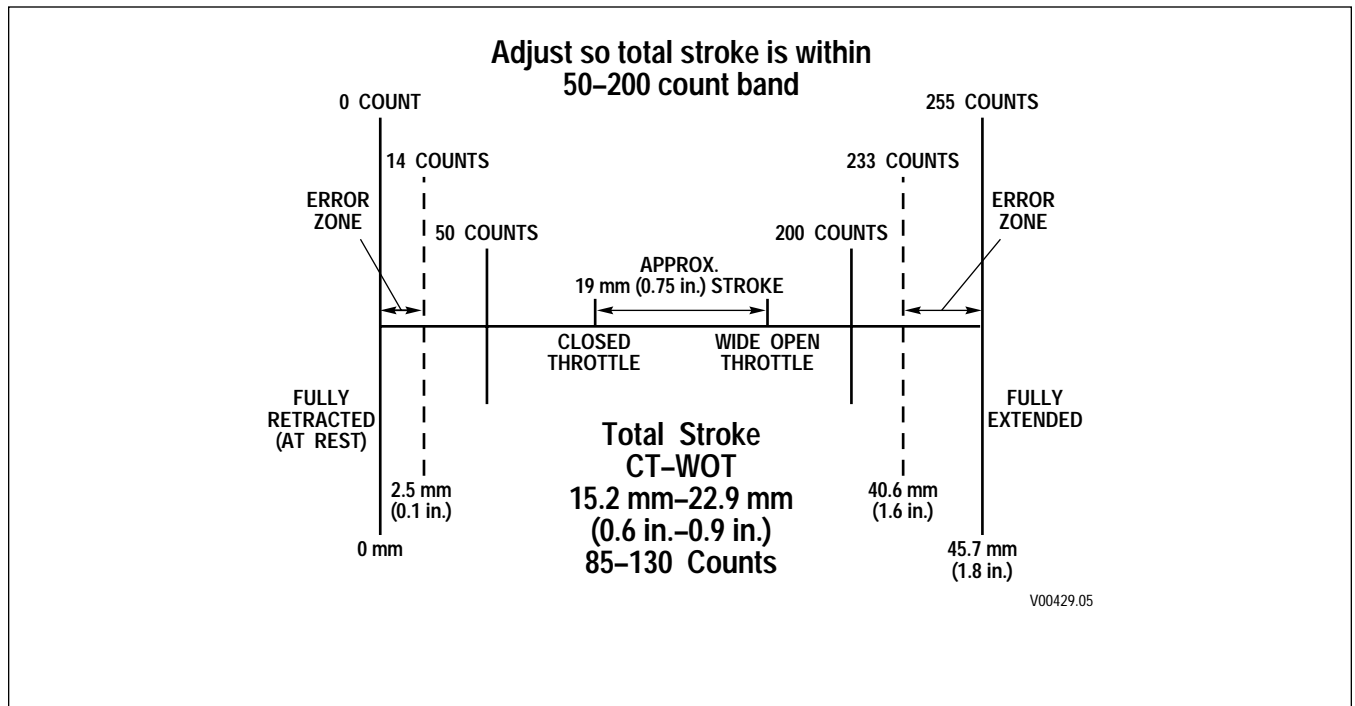

Figure F-2. Throttle Position Determination Diagram
2. Each position gives a different voltage. The ECU then converts the voltage to counts. Each count corresponds to approximately 0.179 mm (0.007 inch) of throttle sensor movement. Figure F-2 diagrams the counts and throttle movement relationship.
**NOTE:** After replacing or adjusting the throttle position sensor linkage, the technician should use the diagnostic tool to clear the throttle calibration. Go to the DDR selection menu and locate ACTION REQUESTS. Select RESET THROTTLE CALIBRATION and ENTER to set the 0 percent throttle counts. After the idle counts are established, the throttle should be moved to the Full position to establish the full or Wide Open Throttle (WOT) position (100 percent). The full throttle counts will be the same as the idle counts until the throttle is moved. The full throttle counts are set when maximum travel is reached so stopping before actual full throttle will set the 100 percent point artificially low. Refer to Figure F-2 for proper counts and percentage. Refer to Figure F-3 for illustration of throttle position adjustment.
When properly installed by the equipment manufacturer, the TPS should not require adjustment. Confirm that the throttle sensor is installed to manufacturer specifications before adjusting the throttle position sensor. The idle count should be 50 or higher and full throttle count 200 or lower. The TPS is self-calibrating meaning there is no optimum closed throttle or wide open throttle count value. As long as the counts are within the 50 to 200 range, the TPS is set properly. Total stroke of 85–130 counts must be maintained. Watch the movement of the throttle sensor as the controls move it through its full stroke. Be sure there is no misalignment or obstruction to smooth movement through the full stroke. Make certain the idle and full throttle positions are not in the error zones (refer to Figure F-2). The error zones occur when the idle position is less than 14 counts, or when the full throttle position is more than 233 counts. When idle or wide open throttle positions are in the error zones, codes 21 12 and 21 23 occur, respectively. These codes cause the transmission to shift as if the throttle is fully depressed (100 percent throttle) affecting shift quality and causing decreased fuel efficiency. Code 21 XX may be caused by a short or open circuit in the chassis harness or by incorrect voltages. If this occurs, refer to code 21 XX chart.